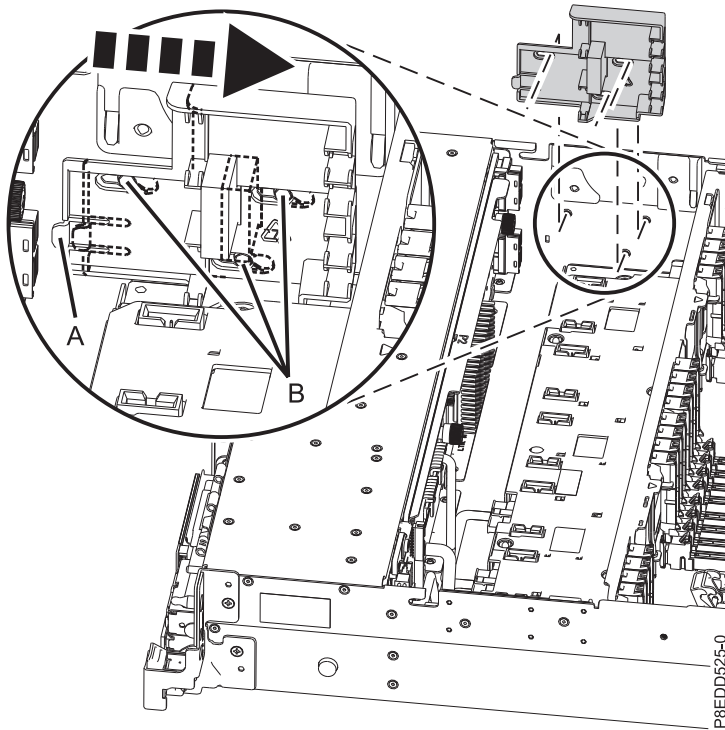

Figure 92. Replacing SAS cable guide
22. Replace the SAS cable guide by inserting the slots on the guide over the pins (B) on the chassis. Grasp the tab (A) of the guide and push the guide toward the rear of the system. Push the guide back until the slots are seated on the pins (B) and the tab (A) of the cable guide latches. See Figure 92.